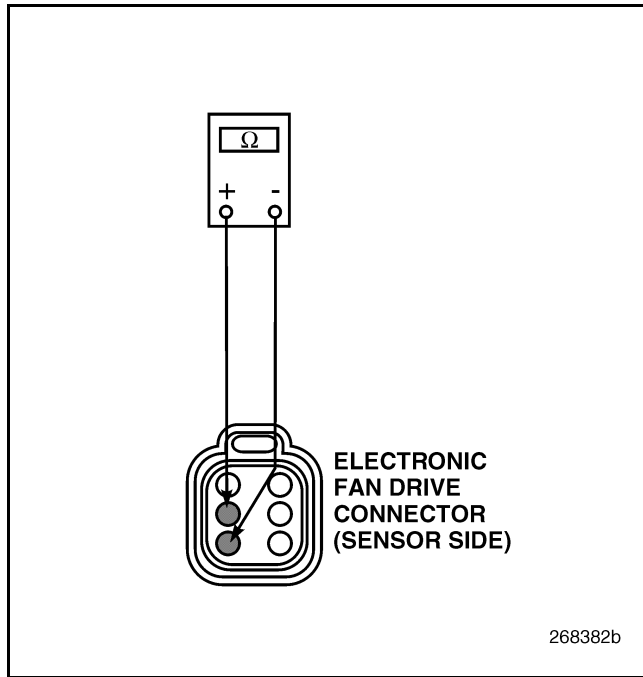

Figure 536
3. Check for continuity between Electronic Fan Drive connector pins 4 and 5 (see Figure 536).